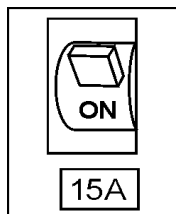

Figure 16. Main Circuit Breaker (ON)
- Place main circuit breaker (Figure 16) in the **ON** position.